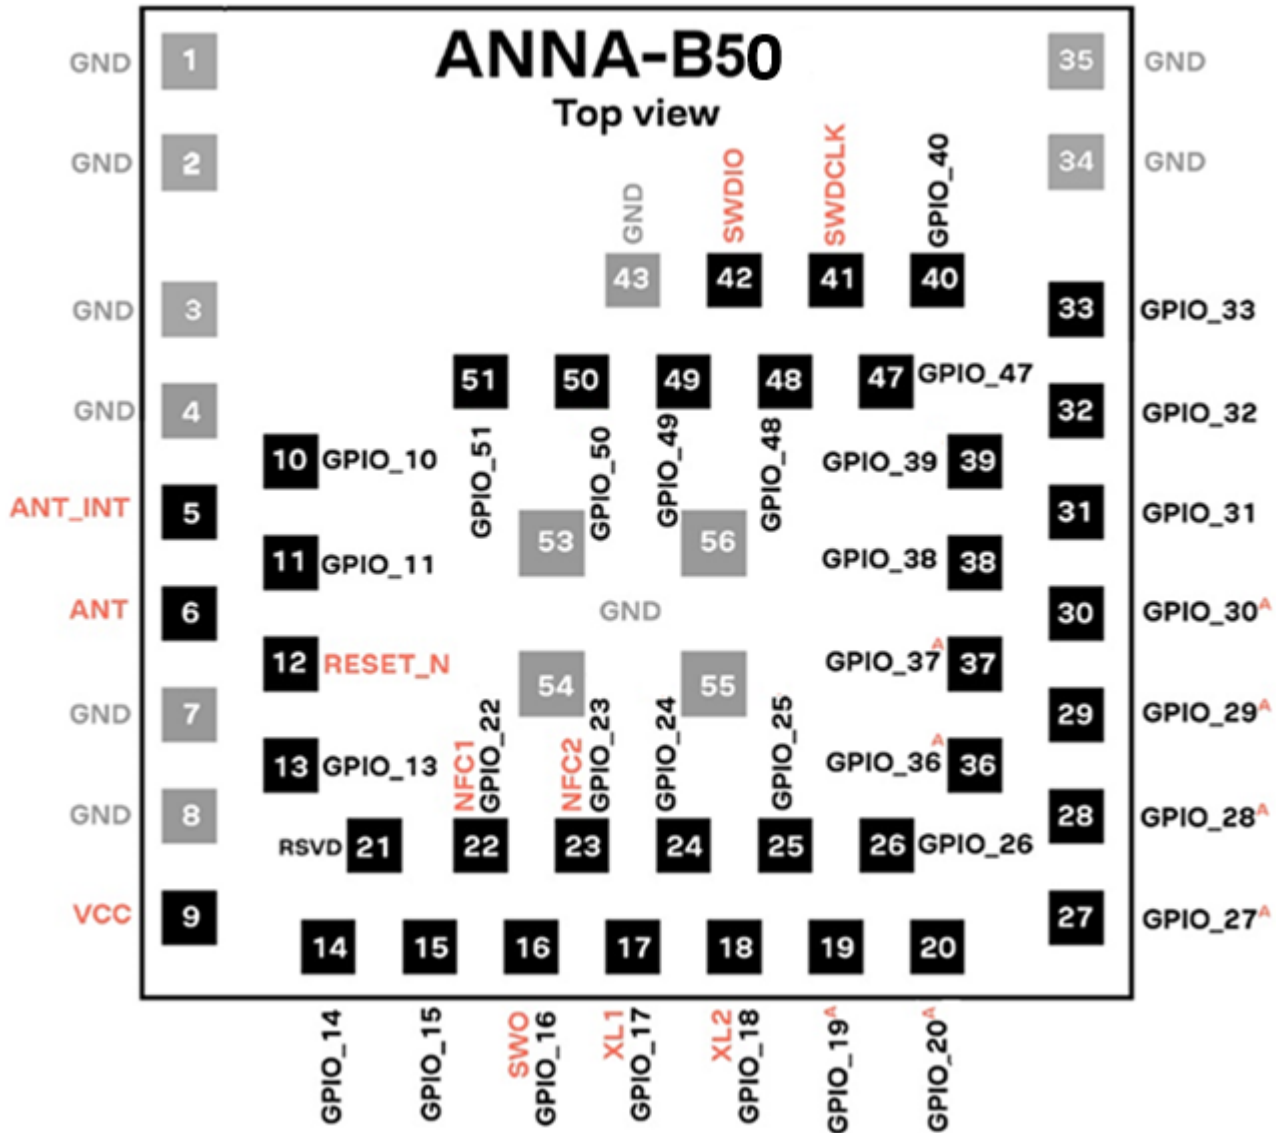

Figure 3: Pin assignment (top view)
Figure 3 describes the pin layout and pin number assignments.
- GND pins are shown in gray in Figure 3